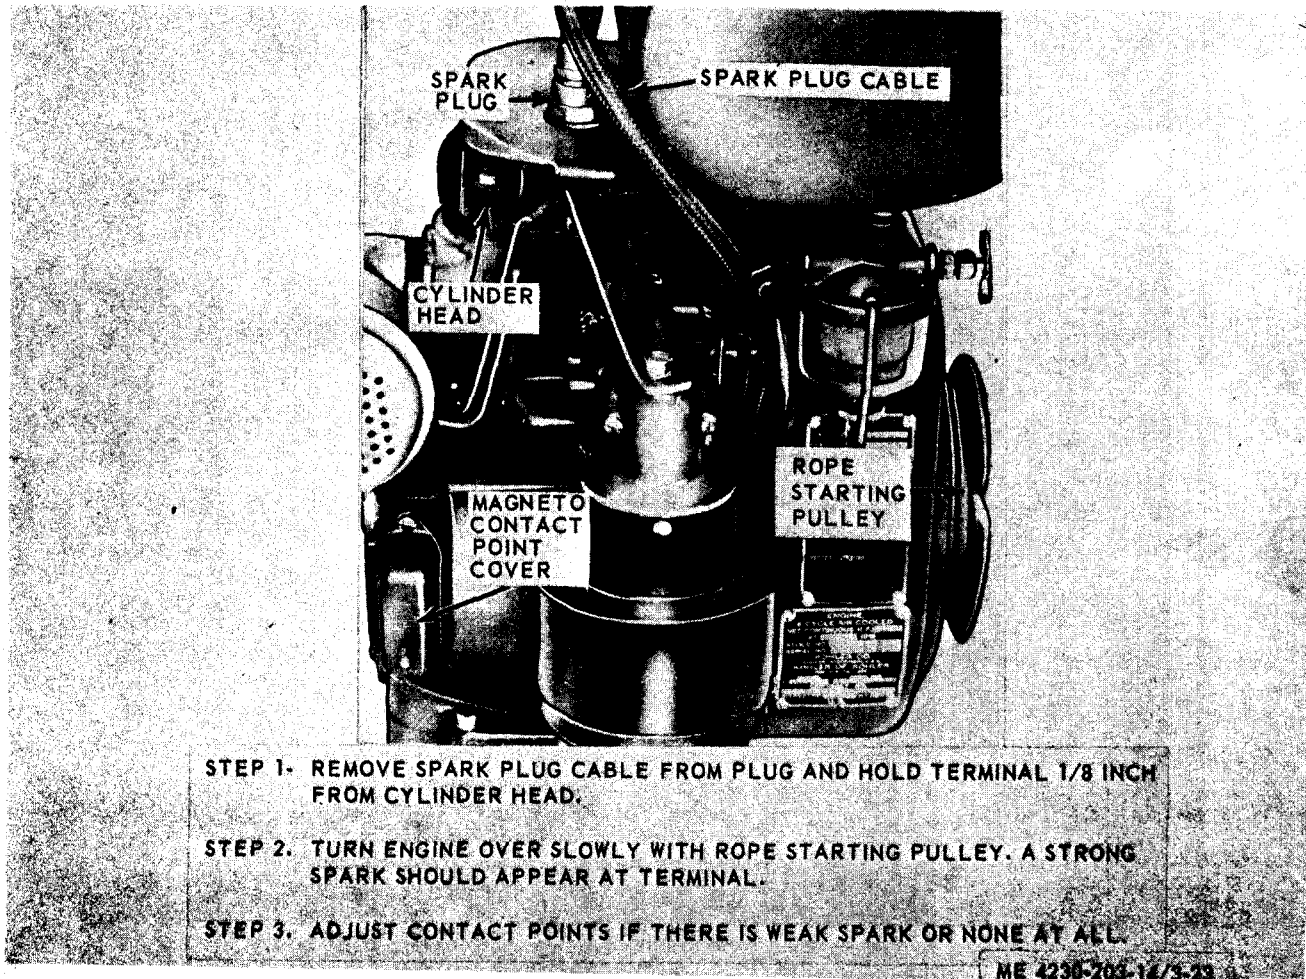
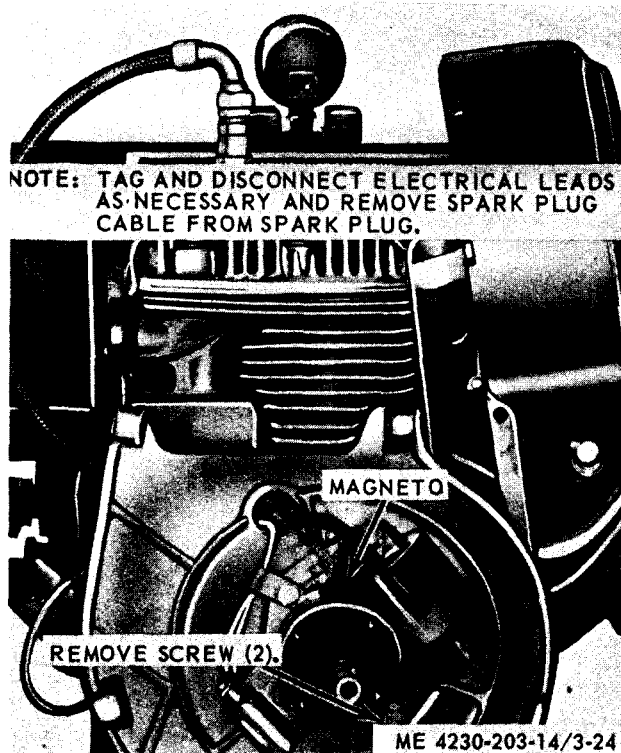

Figure 4-22. Testing magneto ignition spark.
Figure 4-23. Magneto removal and installation.
a. *Magneto Spark Ignition Testing.* Refer to figure 4-22 and test the magneto ignition spark.
(1) Remove the flywheel housing (para 4-11),
(2) Refer to figure 4-23 and remove the magneto.
(1) Refer to figure 4-23 and install the magneto.
(2) Install the flywheel housing (para 4-11).